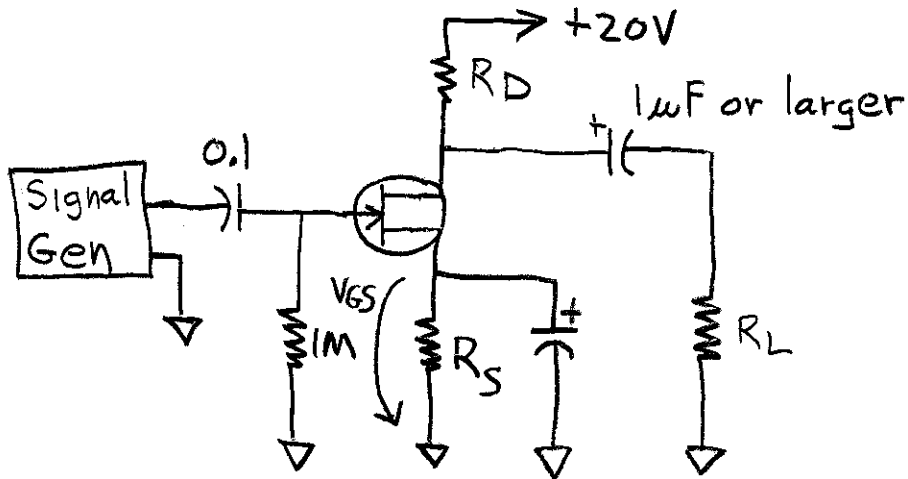

Figure 4
- 4.4 Connect a load resistor (between about half and twice the value you are using for  $R_D$ ) as shown in Figure 4. Measure the AC voltage across the load. Compute the actual gain and compare to the theoretical gain calculation. Using the voltage divider equation, compute the output resistance of the amplifier and compare with the theoretical value. Compute the power gain of the amplifier.